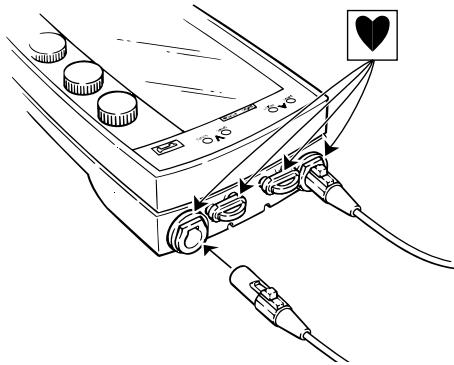

Figure 5-9. Cable to Device Connections.
1. Plug the Model 5433A and Model 5433V patient cables into appropriate sockets at the top end of device (see Figure 5-9).
Plug a pair of Model 5832 or Model 5832S surgical cables into appropriate sockets at the top end of device (see Figure 5-9).